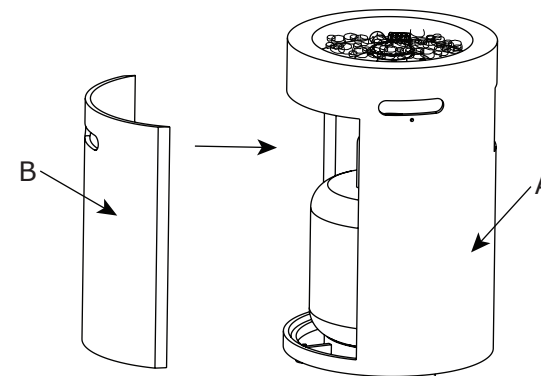

Figure 4
4. Attach the door (B) with fire table (A) tenderly, (See Figure 4).